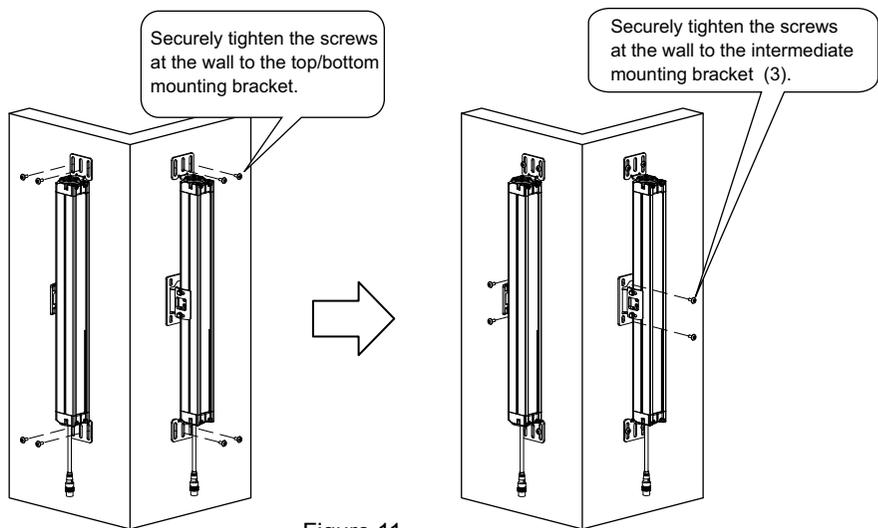

Figure 11
- Tighten the screws to mount to the wall by the order of top/bottom and intermediate mounting bracket (3). (Figure 11)